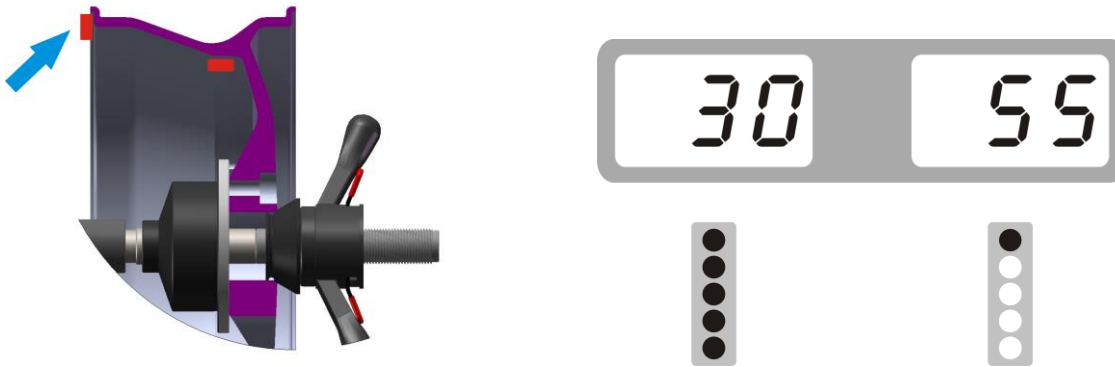

Fig. 7
4.2.6. Anticlockwise moving wheel slowly, the displays with left LED’s lit up full indicate the correct angular position where to mount the counterweights, 12 o’clock position (9H=Off) or 9 o’clock (9H=On) position inside, as Fig.7, add the counterweight.